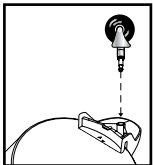

FIGURE 6
9. Insert casters into feet by placing stem of caster into holes provided. Apply pressure and twisting motion until casters snap into place **FIGURE 6.**